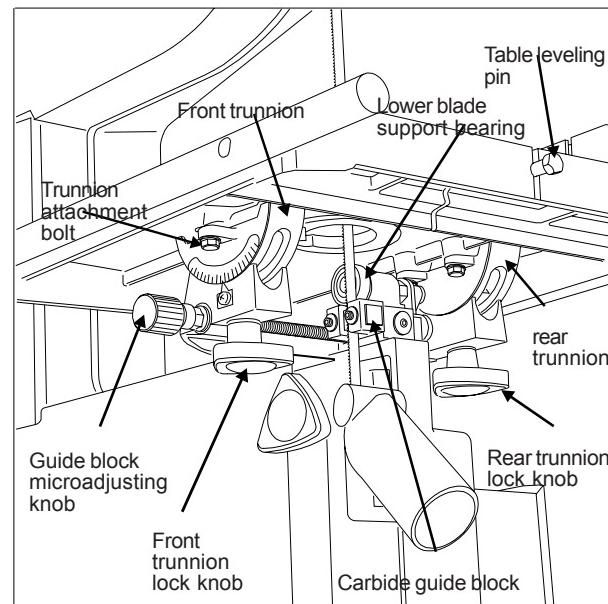

Figure 13. Lower Blade Guide Supports
4. Remove table leveling pin. The pin has a tight push fit in its slot; it is not threaded. (Refer to Figure 13.)